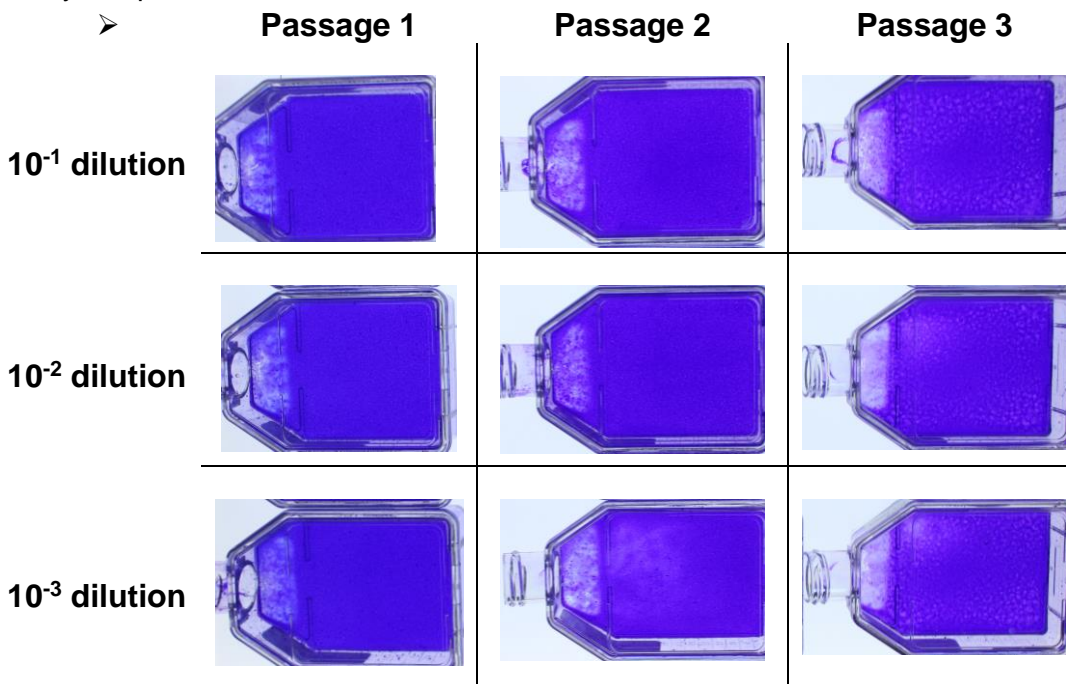

Figure 1: Example of a negative semen results according to VI on cell culture
- No CPE whatever the dilution of the negative control and whatever the VI passage number as shown in figure 1.